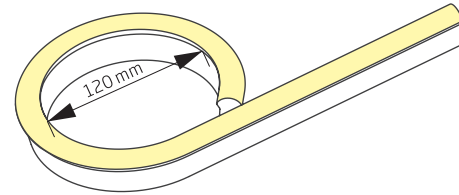
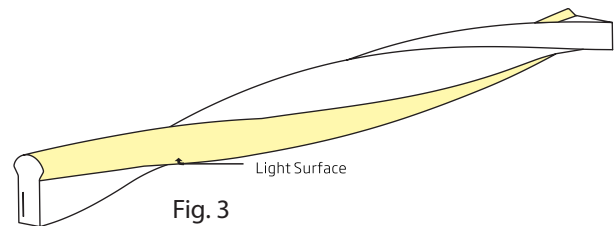

Fig. 1
Fig. 3
- Do not bend past the minimum diameter (Fig. 1) or twist this fixture (Fig. 3, 5). Doing so will result in damaging the internal circuit board.
DO NOT split the pins around the PCB (Fig.3).